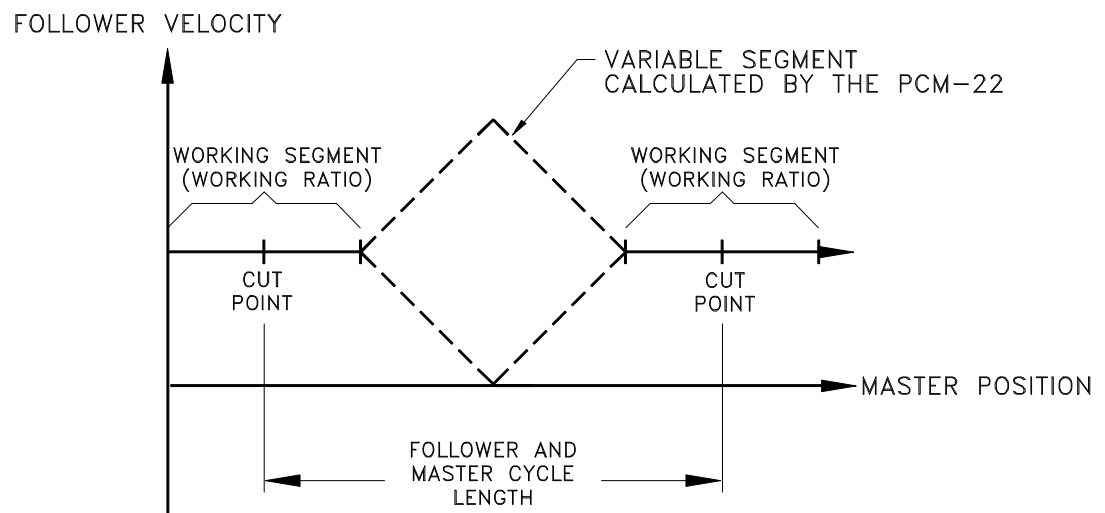

Figure 2 PCM-22 Motion Profile Example
- **Working Ratio:** The Working Ratio defines how fast the blade moves relative to the product when the cut is being applied. Usually this ratio is close to 1:1. The "working segment" is a length during which the Working Ratio is applied. Figure 2 shows a typical motion profile for a PCM-22 Rotary Knife System.